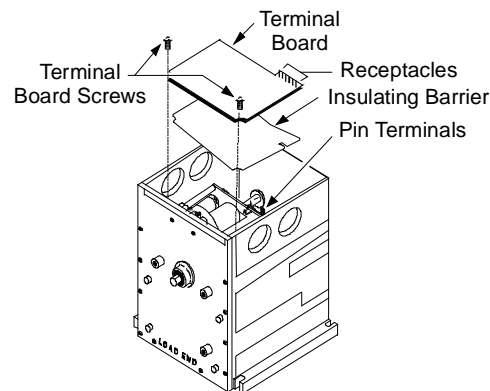

Figure 8: Installing Terminal Board
2. Install the terminal board by carefully placing the terminal receptacles onto the pin terminals. (See Figure 8.)